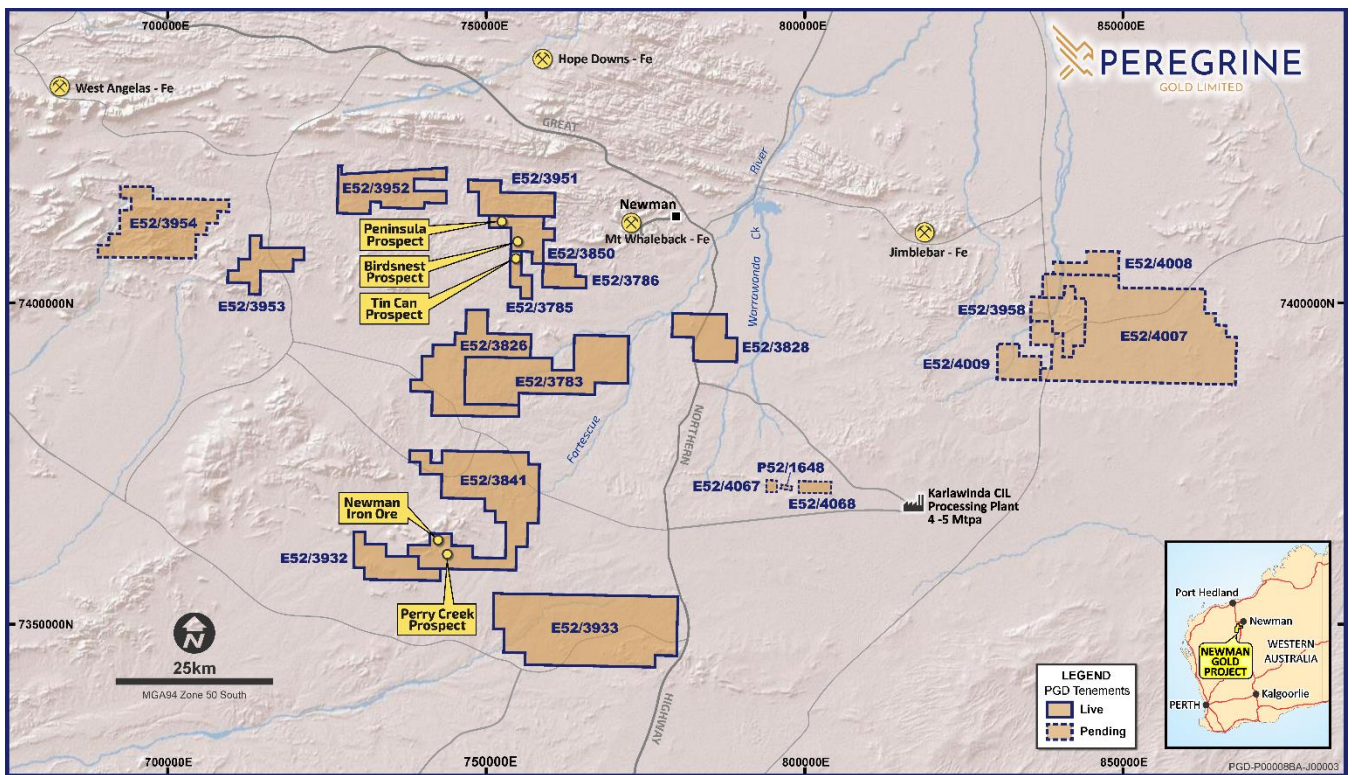

Figure 1: Newman Gold Project tenement locations
The Company holds a 100% interest in the Newman Gold Project (formerly Pilbara Gold Project) consisting of twelve (12) granted exploration licences (and eight applications) covering a total of 1,894km² located on the Sylvania Inlier in the south west of the prolific Pilbara region. The project is situated approximately 30km south and west of Newman and approximately 1,000km north-north east of Perth at the southern edge of the Hamersley area of Western Australia (Figure 1). The tenements are neighbouring Capricorn Metal Limited’s Karlawinda Gold Project (“Karlawinda”).